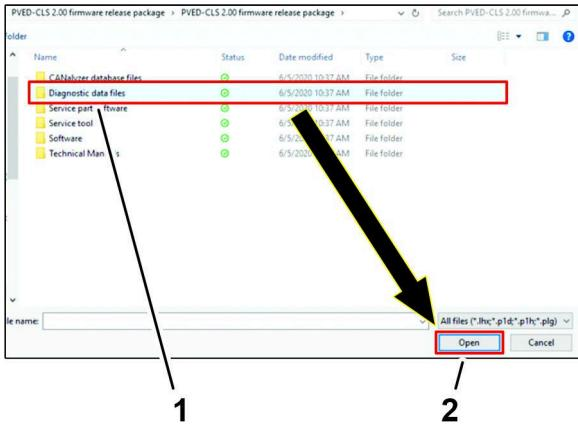

Figura 50
4. Clique na pasta Diagnostic data files, e clique no ícone OPEN (Figura 50).